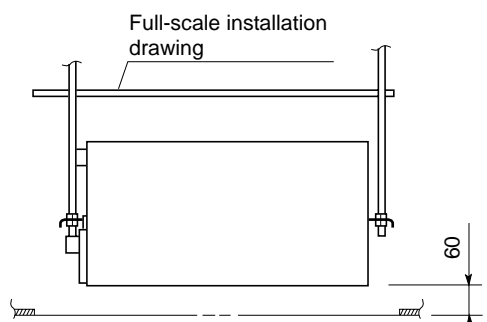

Fig. 3-24
- (1) When placing the unit inside the ceiling, determine the pitch of the suspension bolts using the provided full-scale installation diagram. (Fig. 3-24)
- (3) Adjust the distance between the unit and the surface of the ceiling (60 mm) using the 2 hexagonal nuts as shown in Fig. 3-24. Use the accessory installation gauge to check it.